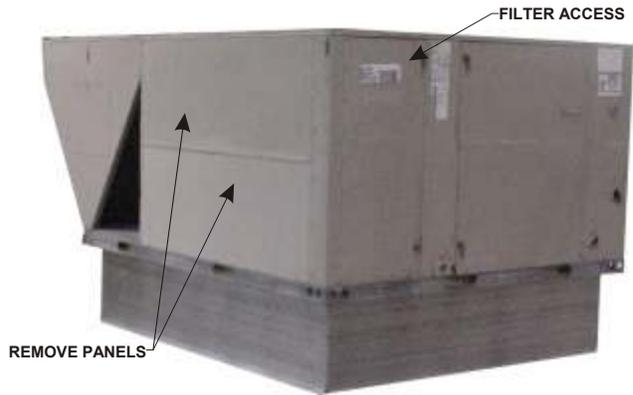

Figure 1
2. Open filter access door. If installing a pivoting wheel verify and/or install an internal modulating economizer. See Figure 1.
3. Remove the rooftop unit horizontal supply air and return air access panels. Also remove any hoods and/or power exhaust equipment. Discard hoods, power exhaust equipment, and horizontal supply and return air access panels. See Figure 1.